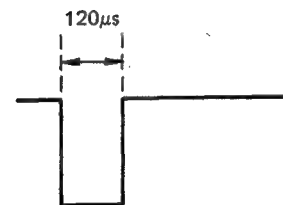

Figure 8-23.
3. Selecting (+) sync slope with the oscilloscope, adjust R2015 to meet the requirement given in Figure 8-23.